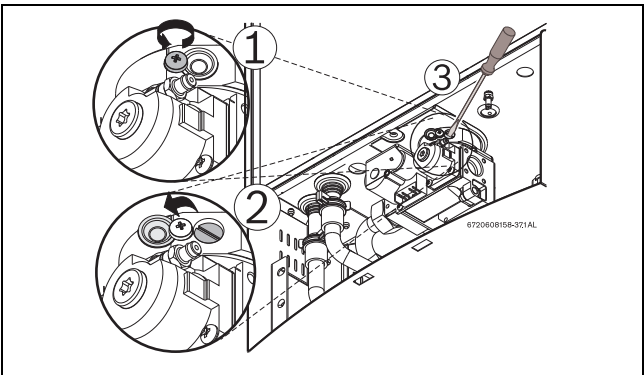

Fig. 73 Adjusting P1 CO₂ level
- Loosen yellow painted Phillips screw (1) and cover should rotate down (2) revealing a recessed brass slotted screw. Fig. 73.